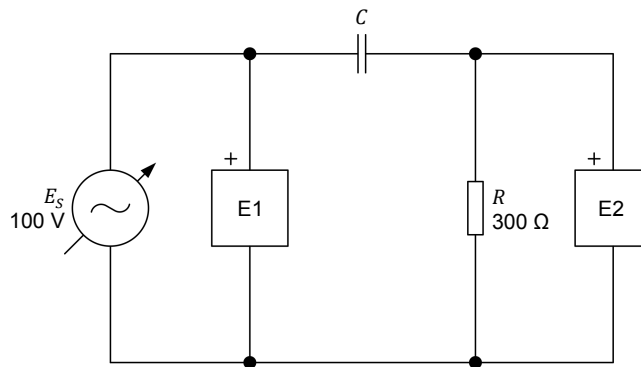

Figure 1-16. AC circuit with a resistor and a capacitor.
20. Modify the circuit so that it is as shown in Figure 1-16 (replace the inductor by a capacitor). This circuit contains a resistor R and a capacitor C . Capacitors are studied in the next unit of this manual.
The value of capacitor C in the circuit of Figure 1-16 is referred to as the capacitance and is expressed in microfarads (μF). The capacitance value to be used depends on the frequency of the ac power source as is indicated in Table 1-3.